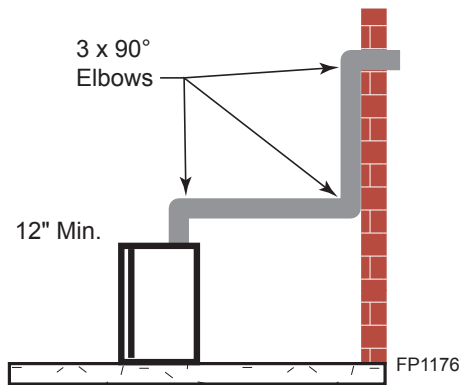

Figure 14 - Maximum Three (3) 90° Elbows Per Installation
- The maximum number of 90° elbows per side wall installation is three (3). *Figure 14*